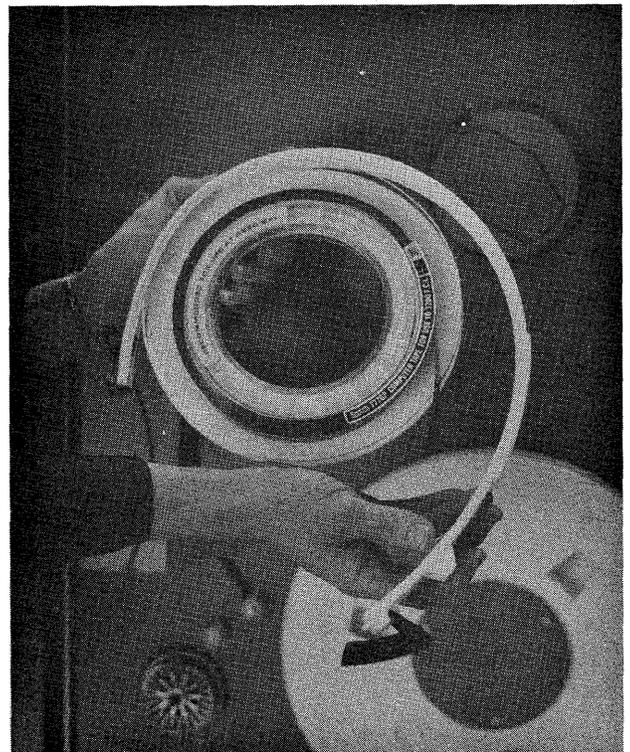
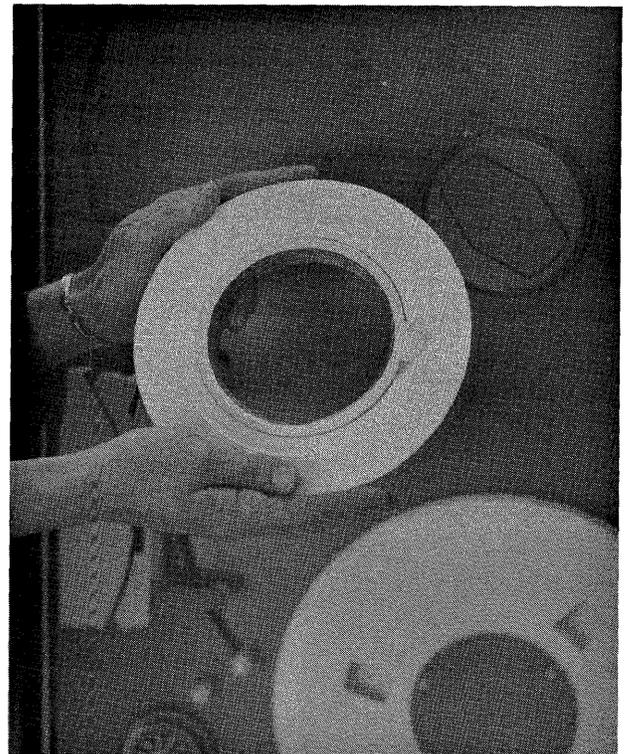

Figure 3-15A. Removing Tape Seal from Reel
Figure 3-15B. Location of Write Enable Ring
3. Remove Tape seal from around the reel. (See Figure 3-15A.) If the reel is to be read only, remove the Write Enable ring. The FILE PROTECT button will light to indicate that the tape is write protected. If the tape is to be written, install a Write Enable ring if necessary. (The Write Enable ring should be placed in a groove in the back of the tape reel. See Figure 3-15B.)